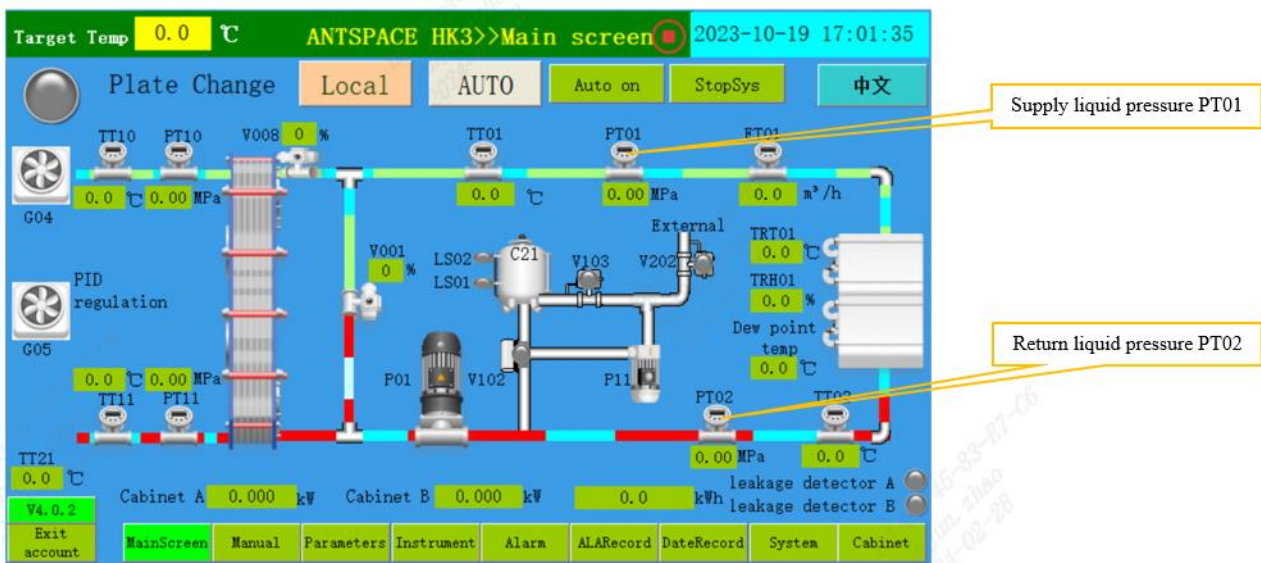

Figure 7-16 System operation interface
- g) When the static pressure reaches 0.7 bar (refer to Figure 7-16, touch screen reading) or above, the circulation pump can be started for 10 seconds (without stopping the Water filling pump), and then the circulation pump can be stopped.
- i) When the static pressure reaches 1.0-1.5 bar, stop adding Water (observe the reading of the main interface pressure sensor PT02, as shown in Figure 7-16).